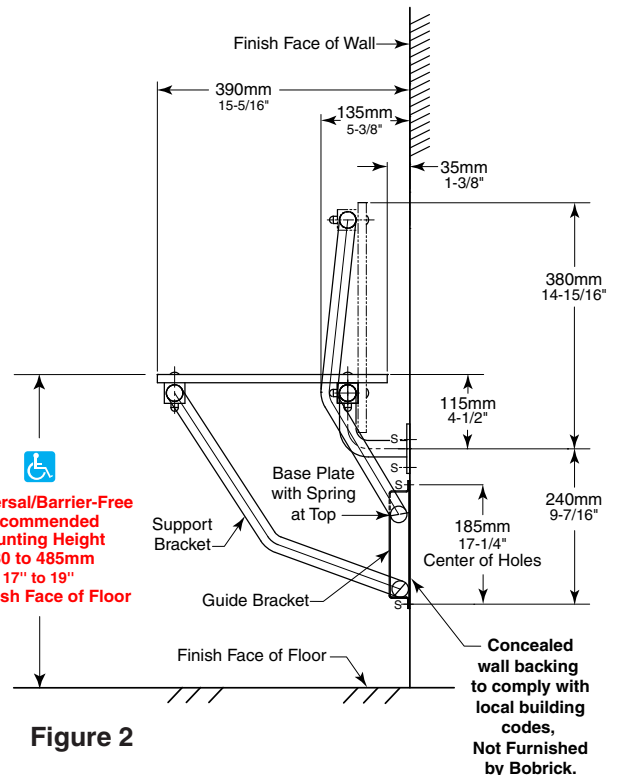

Figure 2
- 1) **For stud wall construction,** install backing (not furnished by Bobrick) (see Figure 2). Backing must be provided before the finished shower wall is applied. Secure with 6.3 x 65mm (#14 x 2-1/2") stainless steel mounting screws furnished by manufacturer.
- 2) **For prefabricated shower stalls,** adequate backing must be provided by the shower stall manufacturer (see Figure 2). Secure with 6.3 x 65mm (#14 x 2-1/2") stainless steel mounting screws furnished by manufacturer.
- B. Locate Guide Bracket on wall with bottom center of Support Tube resting on bottom of Guide Bracket (see Figure 2).
- B. When seat is raised parallel to the wall, it will remain in this position until lowered (see Figure 2).